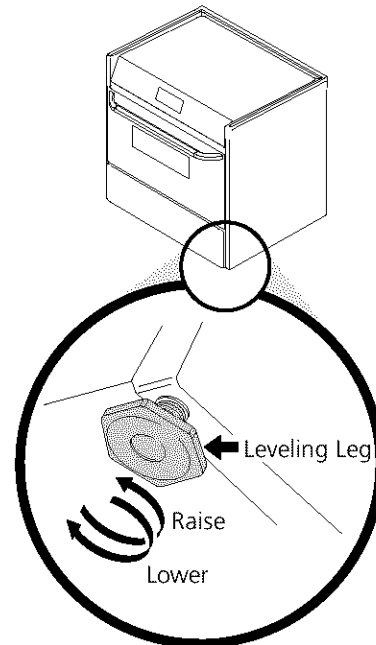

Figure 12
2. Place a level on the rack. Take 2 readings with the level placed diagonally in one direction and then the other. Level the range, if necessary, by adjusting the 4 leg levelers with a wrench (see Figure 12).
4. Level range if necessary, by adjusting 4 leg levelers with wrench. (See Figure 12 below.) A minimum clearance of 1/8" (0.8 cm) is required between the bottom of the range and the rear leg levelers to allow room for the anti-tip brackets.